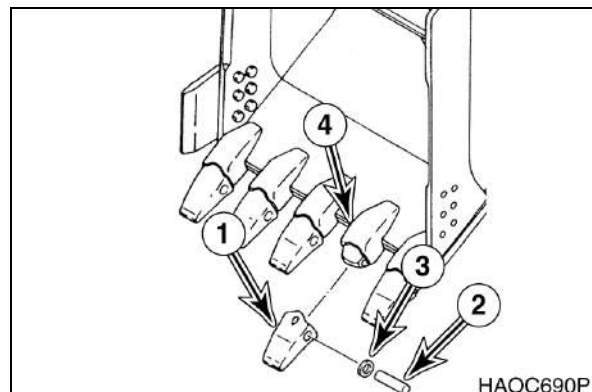

Figure 2
2. To replace a tooth (1, Figure 2), use a hammer and punch to drive the locking pin (2) and lock washer (3) out of the tooth adapter (4).